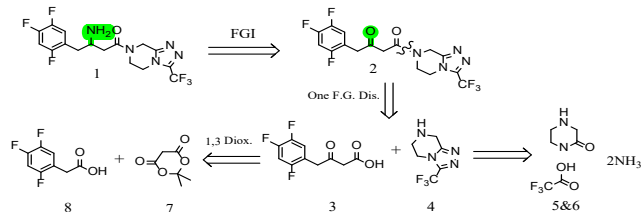

Figure 32 Retrosynthesis for Sitagliptin molecule [12]
The first thing we should notice when doing retrosynthesis is to identify the dioxygenation pattern in the target molecule if any. In sitagliptin, between the two cycles there are two carbon atoms with an alcohol and a ketone oxidation level, therefore obeys the 1,3 dioxygenation pattern. Now we should convert that part into the corresponding canonical structure of that specific patten. In this case we convert the amide functional group into a carbonyl through FGI. Then we could identify that there is an amide group in between of the converted carbonyl and the cycle, through one functional group gets us molecule 3 and 4. This is also a convergent disconnection where the molecule is broken in half therefore each two precursors have their own synthesis route. Now it is quite obvious that molecule 3 has a dicarbonyl structure which also belongs to canonical structures for 1,3 disconnections, therefore helps us to get molecule 7 and 8. For molecule 4, it is has a multicyclic structure with many heteroatoms (N) attached inside, so through heterocyclic disconnection we should be able to get molecule 5 and 6. That is the brief retrosynthesis analysis for the drug sitagliptin (figure 32).